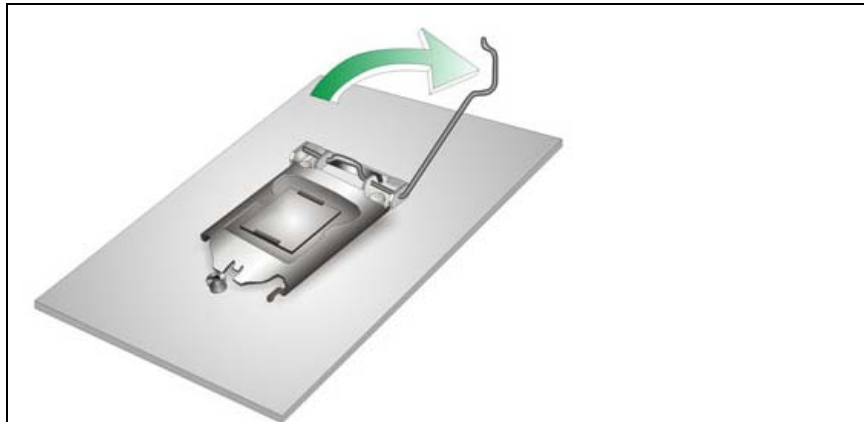

Figure 4-1: Disengage the CPU Socket Load Lever
Step 1: Disengage the load lever by pressing the lever down and slightly outwards to clear the retention tab. Fully open the lever. See **Figure 4-1**.